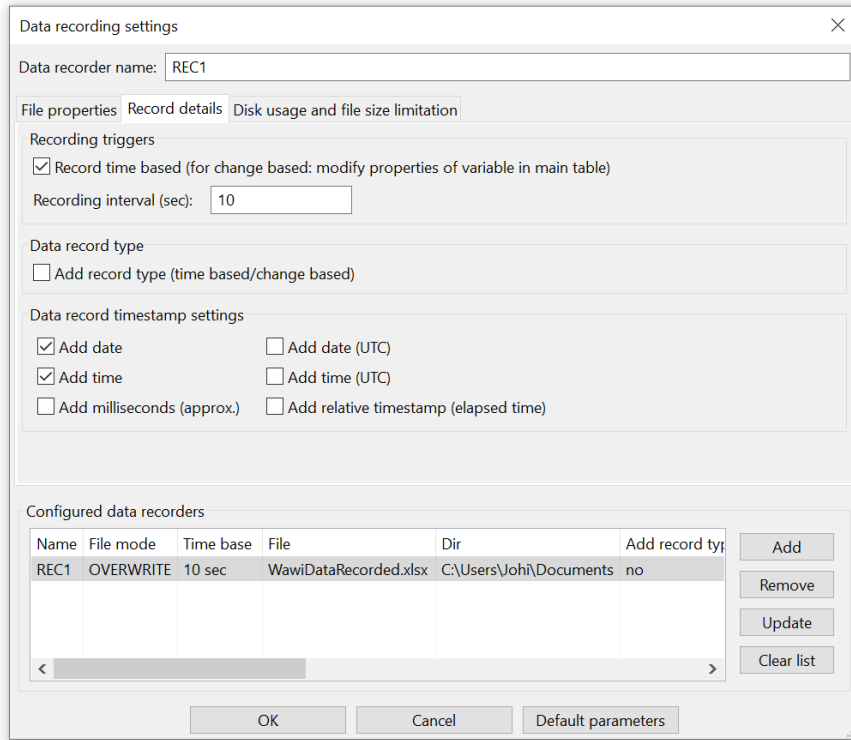

Fig. 7.2. Define a new data recorder time base = 10 sec.
- ✓ Go to the second tab. (Fig.. 7.2.)